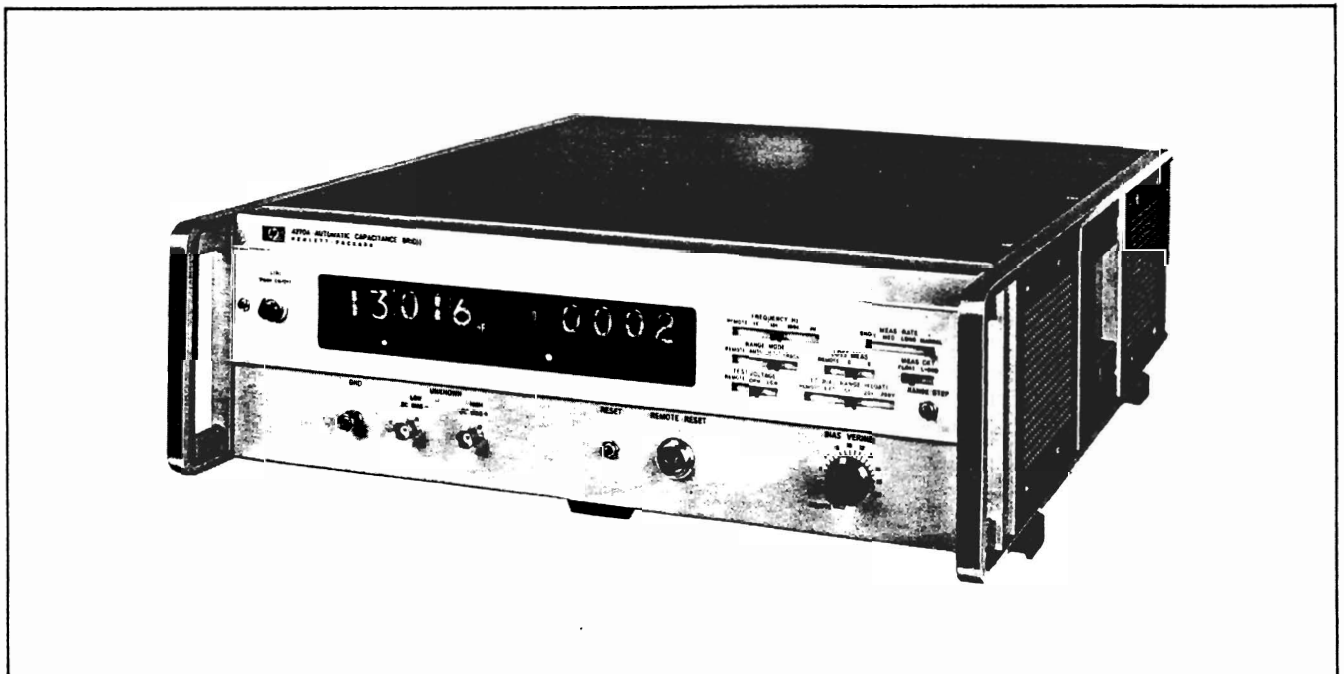

Figure 1-1. Model 4270A Automatic Capacitance Bridge
1-2. The Hewlett-Packard Model 4270A Automatic Capacitance Bridge, Figure 1-1, is designed to meet the requirements of the laboratory, manufacturing and incoming inspection where accuracy and speed are essential. The HP 4270A performs capacitance and loss measurement in direct digital readout with completely automatic operation at 4 frequencies from 1kHz to 1MHz. Capacitance measurement capability from 0.001pF to 1.2 μ F is provided in six automatically selectable ranges. The loss component is measured as either parallel conductance or dissipation factor; loss (G) is measurable down to 0.1 nano-mhos ($n\Omega$). Three-terminal measurement guards the unknown, eliminating the error effects of unwanted stray capacities at the measuring terminals. The instrument is provided with a continuously variable internal dc bias supply up to 200V.